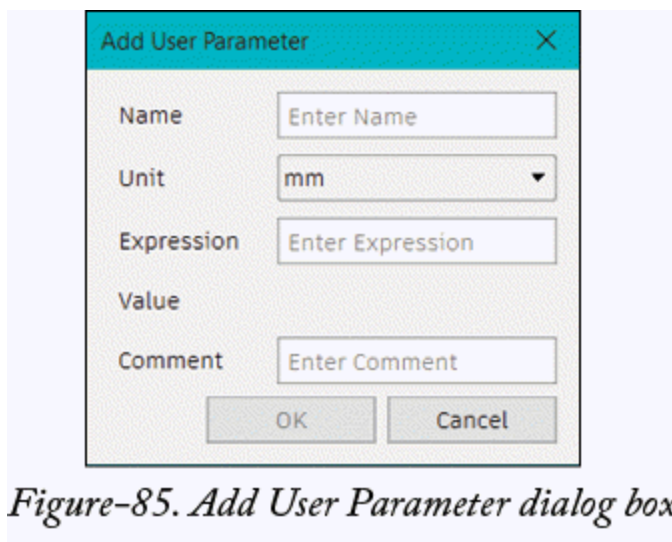

Figure-85. Add User Parameter dialog box
- If you want to create some parameters which are to be used later in equation then click on the **+ User Parameter** button from the **Parameters** dialog box. The **Add User Parameter** dialog box will be displayed; refer to Figure-85.